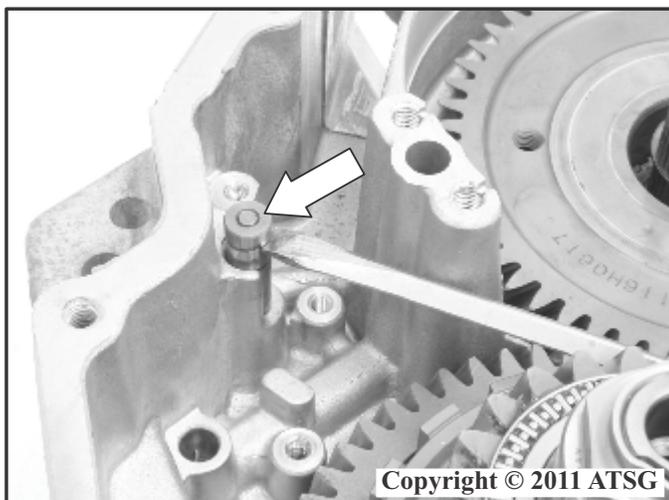

Figure 44
58. Remove the parking pawl spring guide pin as shown in Figure 44.